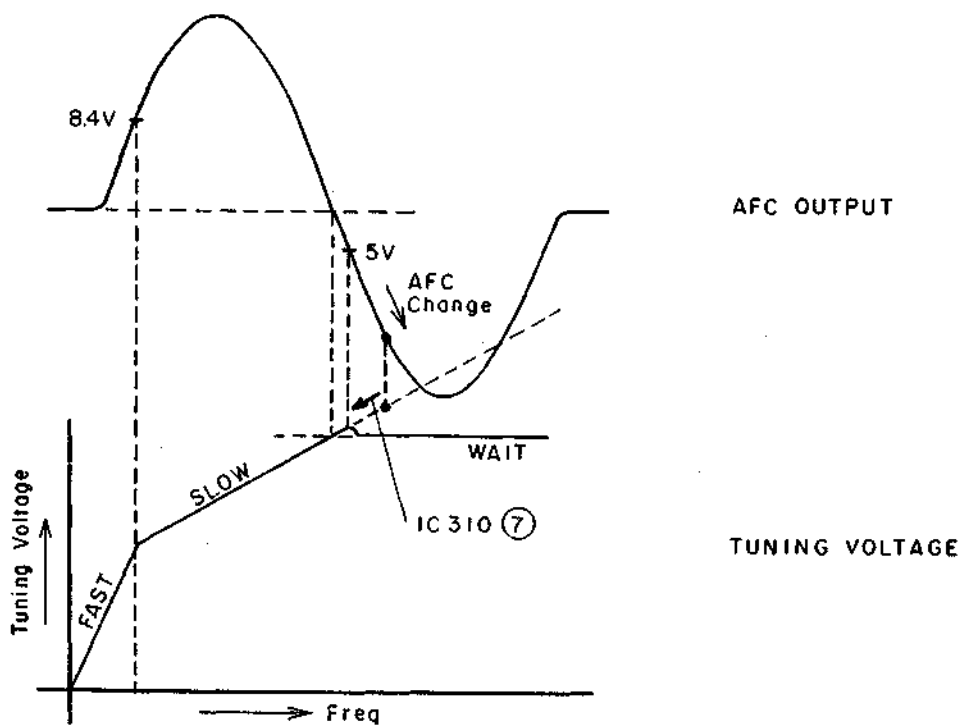

Fig. 31
- 12) FINE is processed by 4 bits within the microcomputer and outputted from IC307 ⑨ ~ ⑫ as 4 bit output. This data are converted into DC by simple D/A converter IC312 and added to the tuner to make fine adjustment when a TV station is received. At this time, AFT is already operation, and the operation is described. When AFT is OFF, IC311 ⑧ - ⑨ is ON, so to the adder the voltage produced in IC312 ⑦ by the voltage differentiated by R346 and R345 is added. When AFT is ON, IC311 ⑧ - ⑨ is OFF, and conversely IC311 ⑩ - ⑪ is ON, and to the IC312 ⑦, the voltage produced in IC312 ⑦ by the signal from AFC is added. If AFC voltage is reduced and the frequency is increased due to the temperature change, etc., IC312 ⑦ rises and IC310 ⑧ falls and the frequency is reduced. (Fig. 31). FINE is to change the center frequency of AFC and about ± 300 kHz of change is possible by $\pm 3V$.
- 13) By pressing the SET (Memorize) key, the memory output order is inputted into IC307. By this order, addressing is carried out by 8 bits of IC307 ⑬ ~ ⑳ (fixed by set channel), and then, the aforementioned 16 bit data (VT: 8 bits, Fine 4 bits, Band 2 bits, Flag 1 bit) are outputted from IC307 ㉓ ~ ㉟, as one word = 4 bits, and stored in IC308.